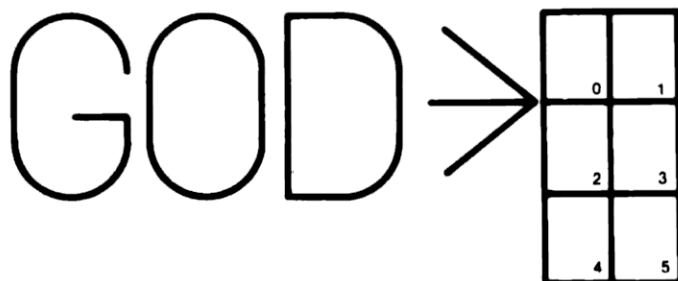

Fig.2. Note that cells 4 and 5 are below the baseline of the word.
4. Press 0, 1, 2, 3, 4, or 5 to BEAR or KILL a cell. (Fig. 2.)